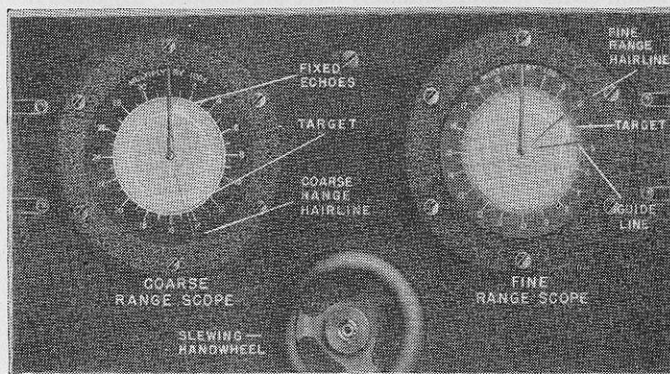

FIGURE 46.—Coarse and fine range scopes.
e. The range operator adjusts the tracking handwheel to set the fine range hair line at the leading edge of the target echo. The guide line of the fine range scope appears near the following edge of the signal. The proper location of the signal in the V formed by the fine range hair line and the guide line on the fine range scope is shown in figure 46.